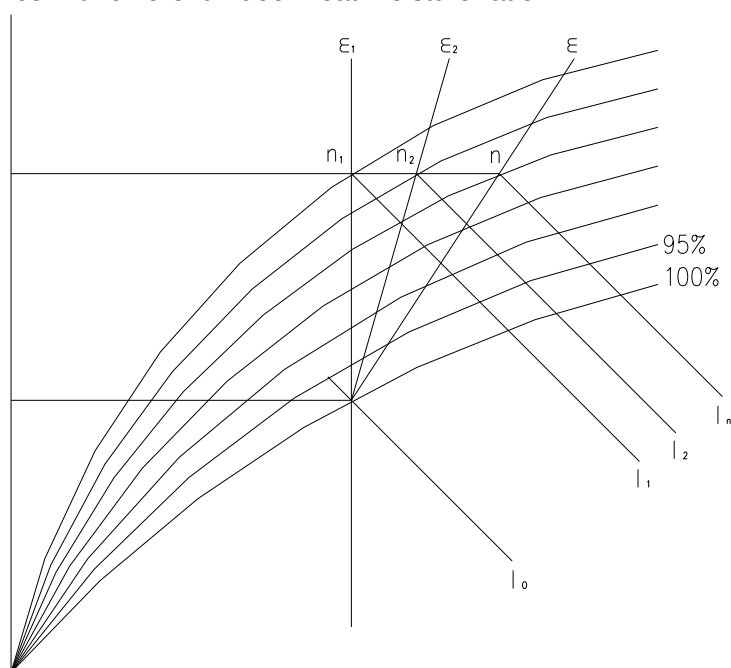

Fig.1 Air treatment process of the fan coil
6) If the fan coil runs in the standard work conditions, the air treatment end is the air treatment enthalpy difference. The refrigerating capacity of the fan coil relates to the indoor humid load. The higher the heat moisture ratio, the smaller the refrigerating capacity, as fig.1 and the air treatment enthalpy difference can be confirmed with the indoor heat moisture ratio curve, air treatment end parameter and the indoor air parameter. Then, the refrigerating capacity of the fan coil can be calculated according to the air treatment enthalpy difference with different indoor heat moisture ratio.